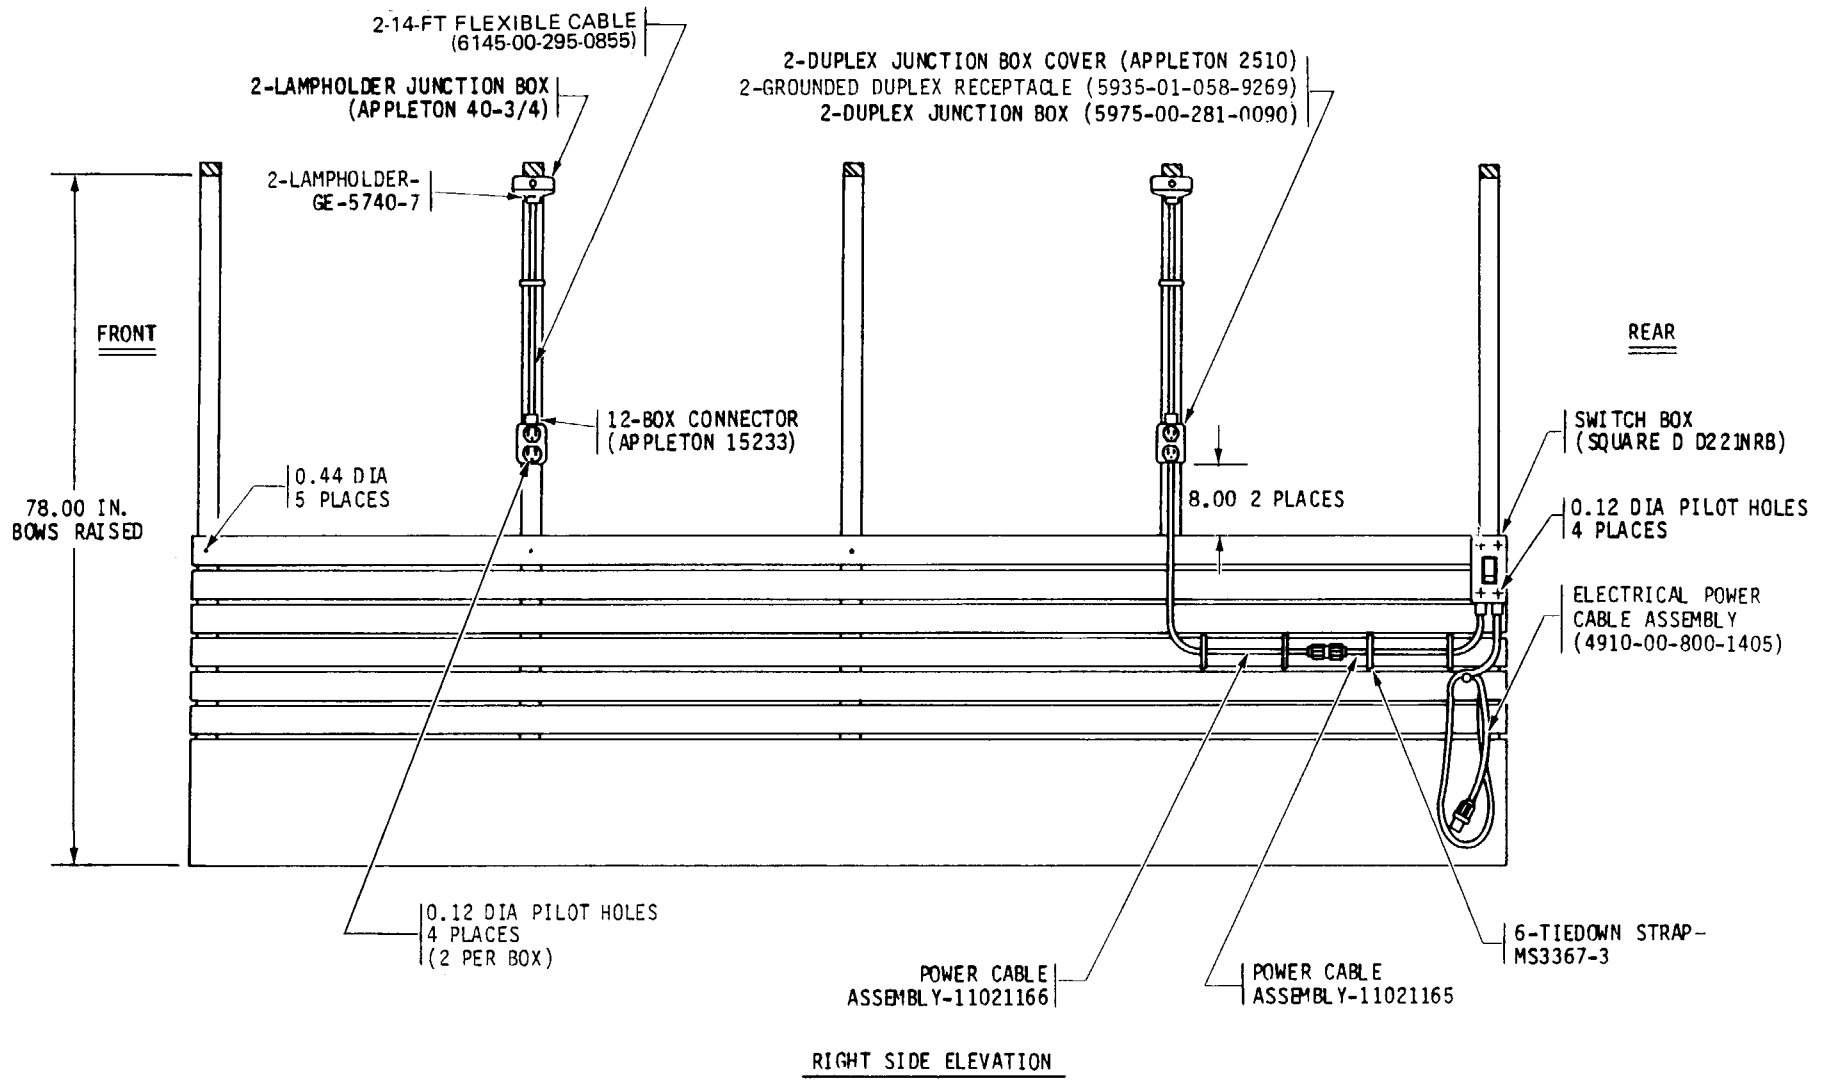

Figure 7. Electrical Components to be Mounted, M35A2, Right Side Elevation.
b. Follow steps (1) thru (14) below for electrical component installation in M35A2 cargo truck.
(1) To provide sufficient headroom for personnel to work in the M35A2 cargo truck, raise the bows 18 inches to a total height of 78 inches in accordance with figures 7 and 8, and drill ten 0.44-in. diameter holes through bow sockets and bows.
(2) Secure bows in place with ten 7/16- x 1-3/8-in. hex head capscrews (MS90725-88), ten 7/16-in. lockwashers (MS35338-47), and ten 7/16-in. hex nuts (MS51967-11).
(3) Position switch box (Square D D221NRB) on the two top slats in accordance with figure 7. Using holes of switch box as a template, mark and drill four 0.12-in. diameter pilot holes. Secure switch box to truck slat with four #10 x 1-in. thread forming screws (MS51861-49).
(4) Install electrical power cable assembly (4910-00-800-1405) through box connector in bottom of switch box and connect to circuit breaker inside switch box in accordance with figure 7.
(6) Position four duplex junction boxes (5975-00-281-0090) on bows as shown in figures 7 and 8. Mark and drill eight 0.12-in. diameter pilot holes and secure duplex junction boxes to bows with eight #10 x 1-in. thread forming screws (MS51861-49).
(7) Remove two knockout slugs from each lampholder junction box and
(12) Install four duplex junction box covers (Appleton 2510) to duplex junction boxes (5975-00-281-0090) and secure with screws provided in duplex junction box covers. Refer to figures 7 and 8.
(13) Tighten all box connectors (Appleton 15233) to secure flexible